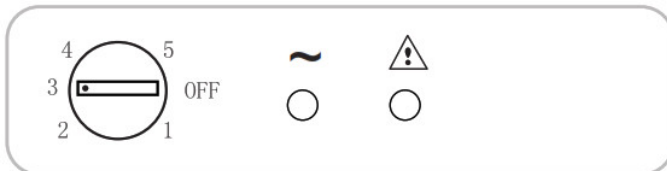

Fig. 3
1. Rotate the knob to the „0“ position (Fig .3)